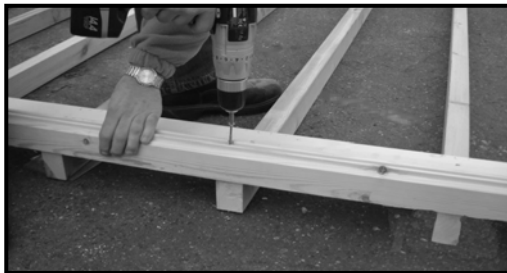

FIG 3
5. Also measure length at the centre of the building from wall to wall (A1 to A1) to ensure correct length before fixing to joists (fig3) with 80mm screws.